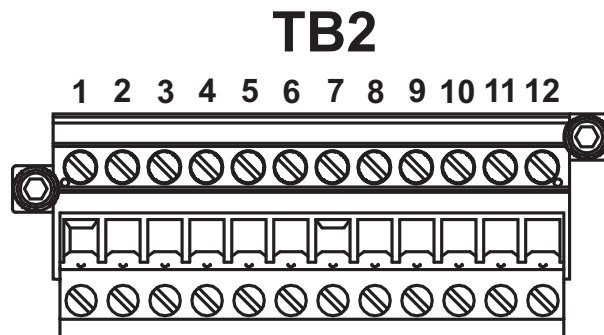

Figure 3-5 Mating terminal block (TB2) in electronics enclosure for connecting signal cables
6. Strip back the jacket and insulation of the current loop and serial cables just enough to connect to the mating terminal block (TB2), shown in Figure 3-5. The mating terminal block can be pulled up and removed from its base to make the cable connection process easier.